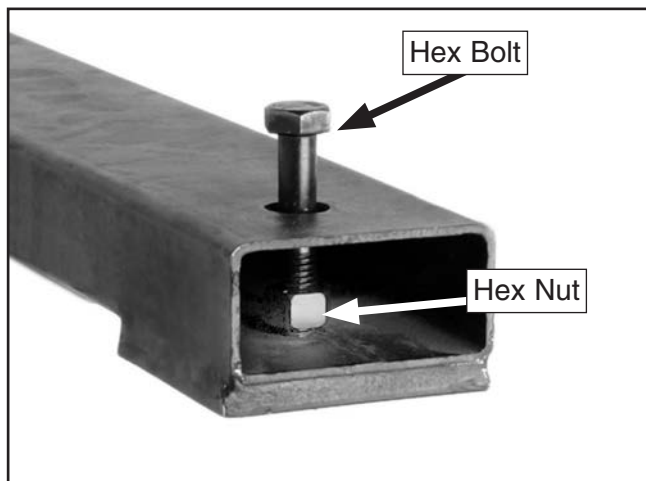

Figure 12. Leveling leg with hex bolts.
4. Mount the machine to the floor (refer to **Mounting** on **Page 16**), or insert the four M12-1.75 x 70 hex bolts through the leg mounting holes, as shown in **Figure 12**.
5. Thread an M12-1.75 hex nut onto each hex bolt (see **Figure 12**) and continue threading the bolts through the bottom mounting holes until they touch the floor.